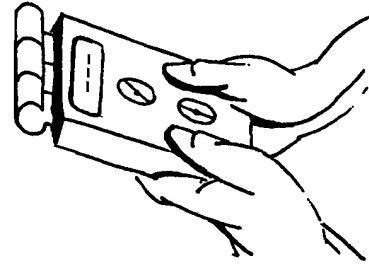

Fig. 3
- hold the instrument in the air (fig. 3) and set the upper control knob to MEASURE. The device will calibrate automatically (the display shows - - -). The end of calibration is indicated by the number 00.0 displayed on the LCD. The device is ready for measurements
Quickly switch the upper control from OFF to SETTINGS CHECK. The diode BUILD. MAT. will light up. The LCD will display the density and thickness set during the previous measurements (e.g. 1.6 and 50). Hold the device in the air (fig. 3), switch the upper control knob to MEASURE. The device will calibrate automatically (the display shows - - -). The end of calibration is indicated by the number 00.0 (the lower range limit) displayed on the LCD. The device is ready for measurements.